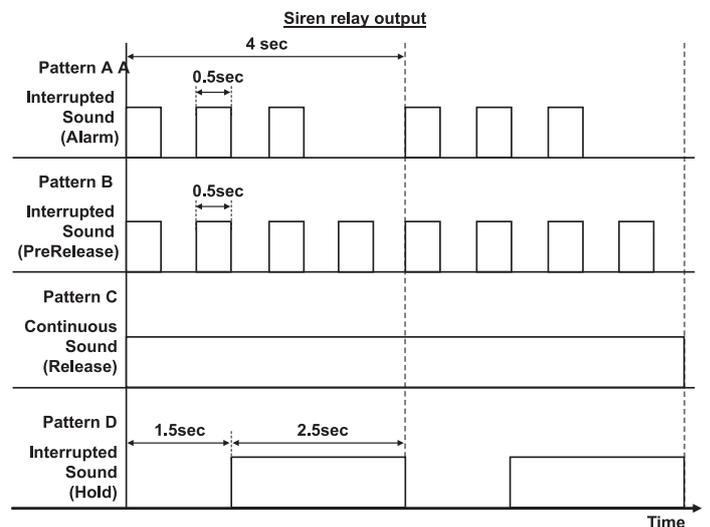

Figure 39. Cross-zoning siren output patterns
- Relay 1 produces the pre-release output pattern (see Figure 39)
The siren output of an extinguishing area (Relay 1) will not follow the constant or ANSI option for audible devices. The output patterns is always as shown on Figure 39, "Cross-zoning siren output patterns".